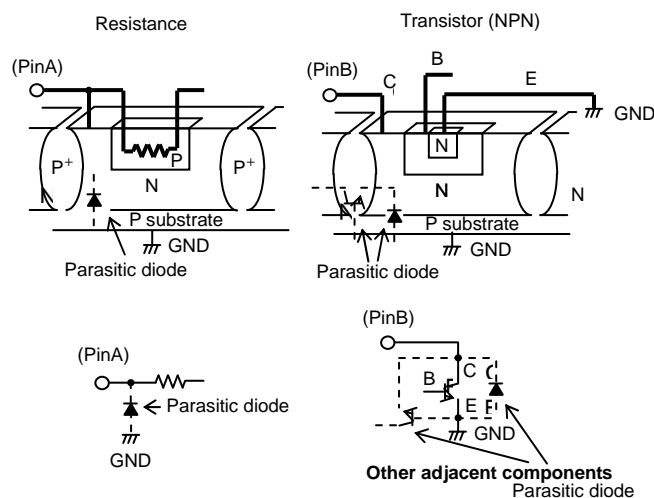

Fig.1 Simplified structure of a Bipolar IC
13. This IC is a monolithic IC which (as shown is Fig.1) has P⁺ substrate and between the various pins. A P-N junction is formed from this P layer of each pin. For example, the relation between each potential is as follows,